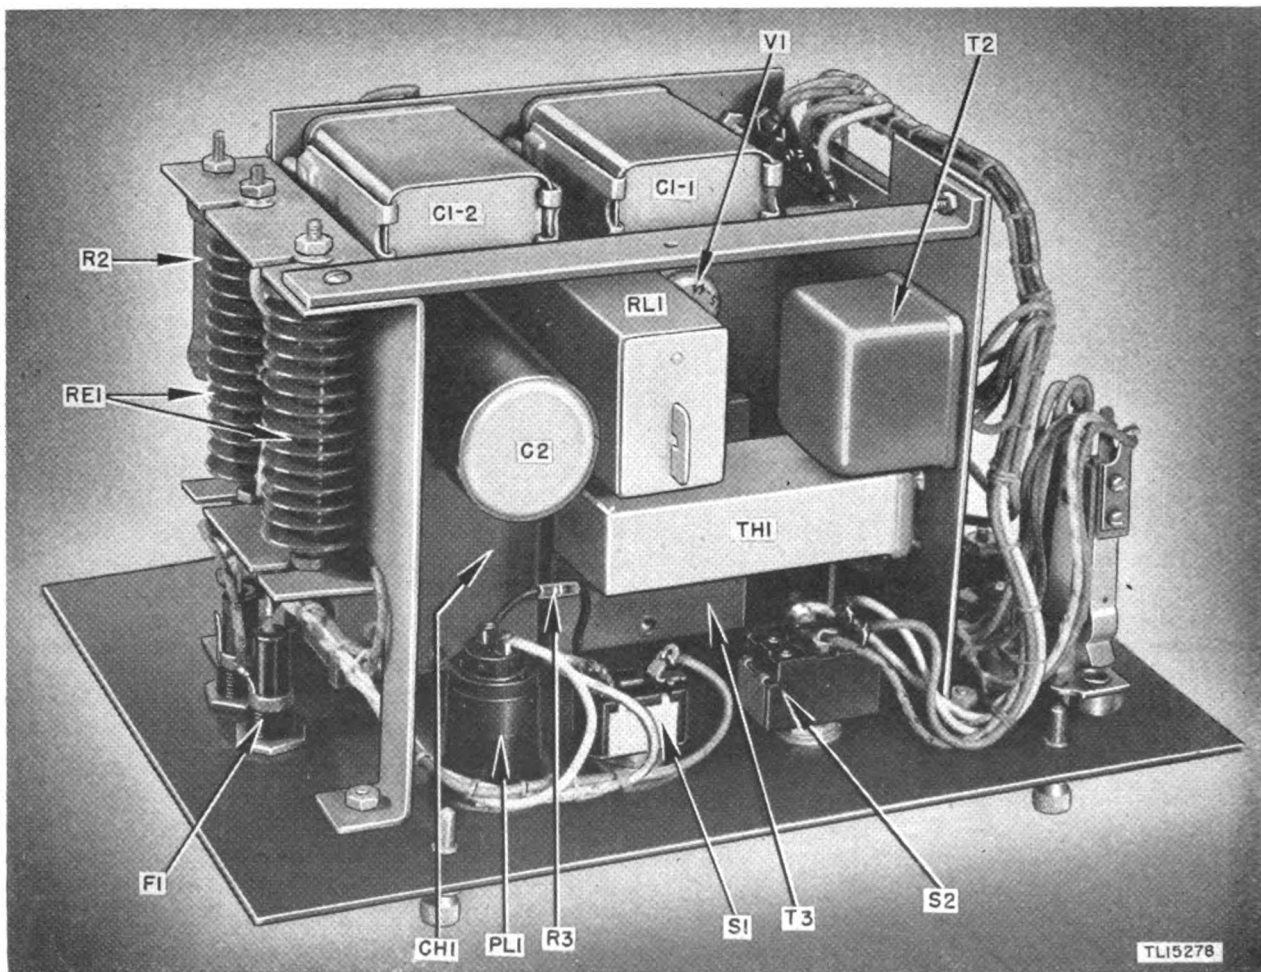
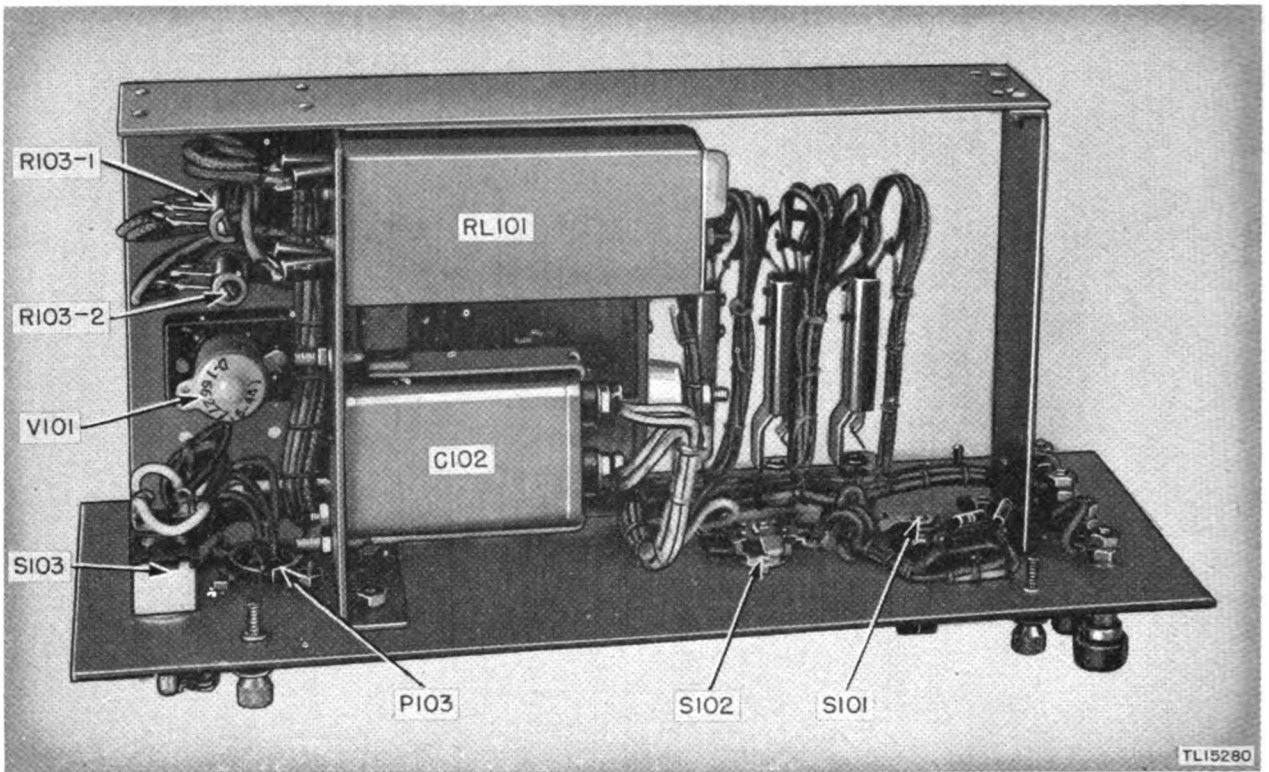

Figure 11. Control unit C-113/TRA-2, right rear view.
Figure 13. Remote control unit C-112/TRA-2, top view.
a. Figures 11 and 12 are internal views of Control Unit C-113/TRA-2; figures 13 and 14 are internal views of Remote Control Unit C-112/TRA-2. Figures 15 and 16 are wiring diagrams of Control Unit C-113/TRA-2 and Remote Control Unit C-112/TRA-2, respectively. Control Unit C-113/TRA-2 and Remote Control Unit C-112/TRA-2 have only a few moving parts which are frequently used. Therefore, they should require only a minimum of maintenance. All electrical equipment of this type, however, must be kept free of grit and dirt to prevent failure caused by improper contact. The units are well gasketed to prevent the entrance of foreign matter, but under severe field conditions, some dust may filter through. Routine maintenance should include the cleaning and dusting of the components, preferably by air hose.